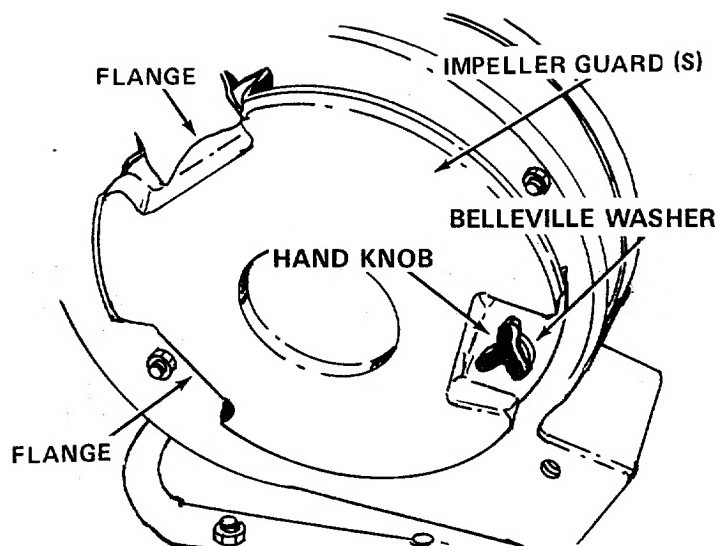

FIGURE 13
5. Lift up and out on the housing and rotate it 105° clockwise. Chute opening should be to the right hand side when viewed from the front of unit. See figure 13.
6. Place the impeller guard (S) into flanges on front of housing. Line up hole in guard with hole on housing. Secure with one hand knob and belleville washer. See figure 13.